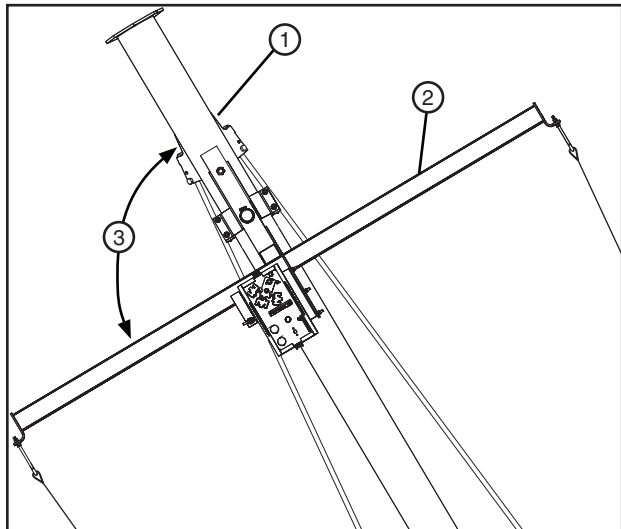

Figure 96-1 1. Span Pipe
- Adjust the fixed end cable mount hook bolts until both the proper deflection of safety cable is achieved and the "T" bar is perpendicular (90 degrees) to the span pipe. See figure 96-1.